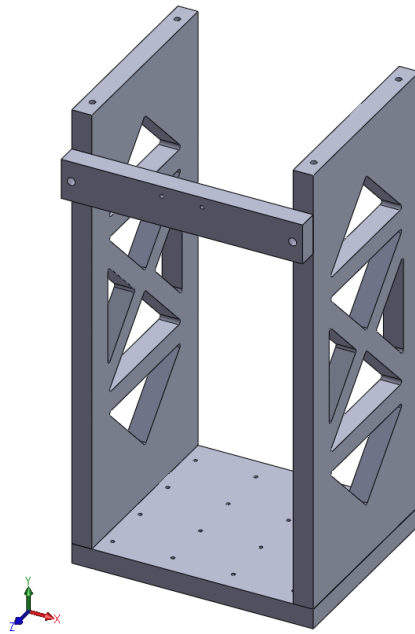

Fig. 6: Shelf Configuration 2
4.16: Repeat steps 4.01 - 4.15 with shelf Config. 2 installed as shown in Fig. 6.	OK? _____